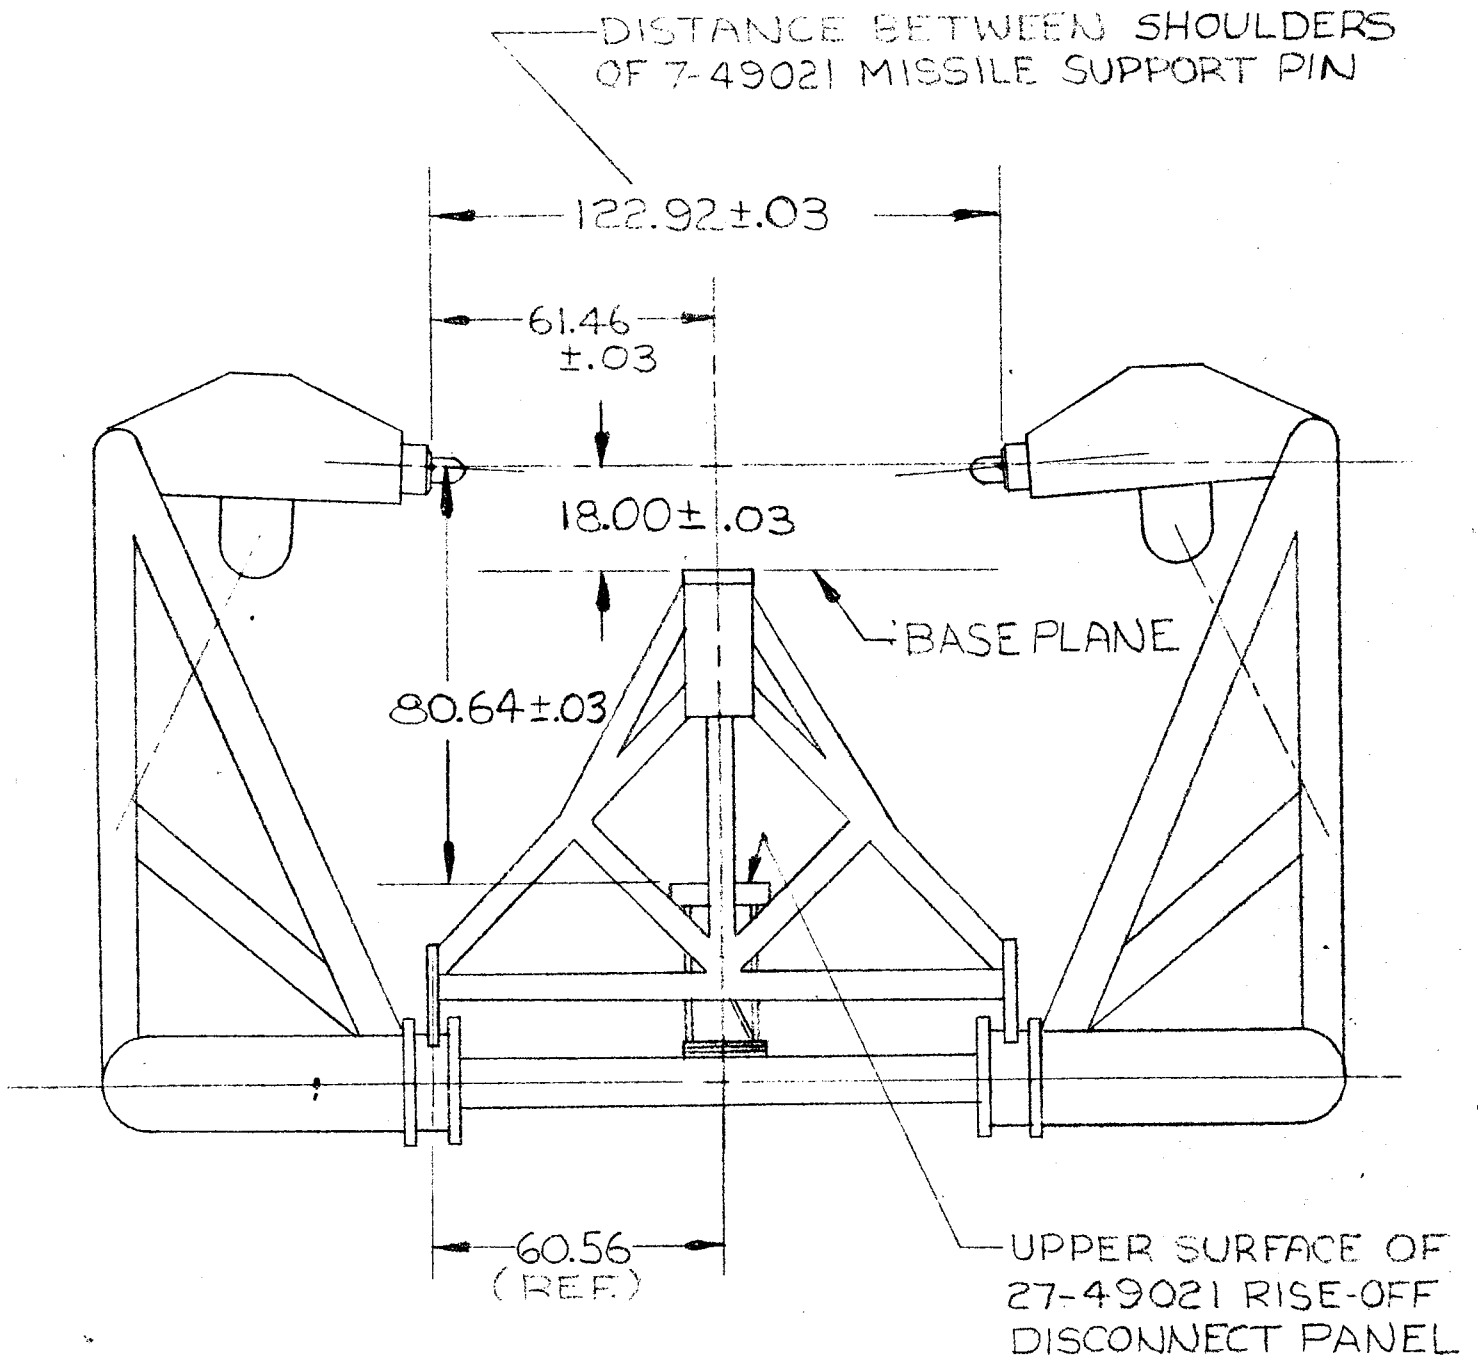
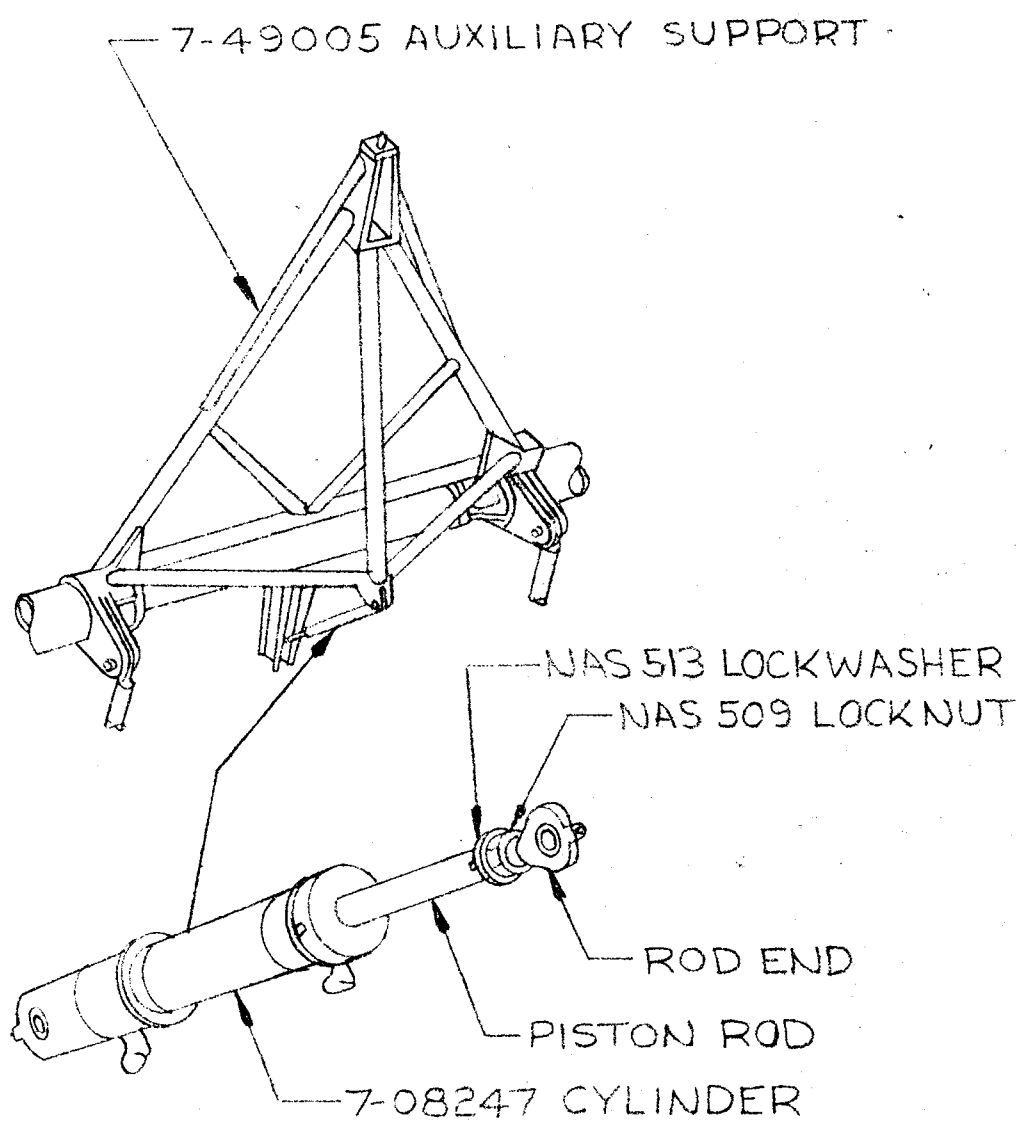

FIGURE 4-1B LAUNCHER ADJUSTMENT
FIGURE 4-17 AUXILIARY SUPPORT ADJUSTMENT
(1) Loosen NAS 509 locknut until NAS513 lockwasher is free of slots in piston rod. See Figure 4-17.
(2) Turn piston rod with a strap wrench around piston rod immediately adjacent to rod end.
(3) When desired adjustment is attained, lock rod end to piston rod by tightening NAS 509 nut, making certain NAS 513 washer is engaged in slots on piston rod.
- a. Verify that distance between centerlines of 7-49021 support pins and upper face of 27-49019 launcher rise-off disconnect panel assembly is 80.64 ~~80.03~~ inches. (See Figure 4-1B).